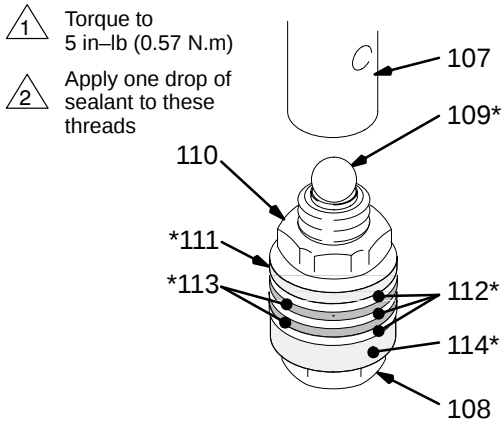

Fig. 19 01070
3. Tighten the nut (110) onto the piston valve (108) to 5 in-lb (0.57 N.m). See Fig. 19.
5. Place the ball (109*) on the piston valve (108). See Fig. 19.